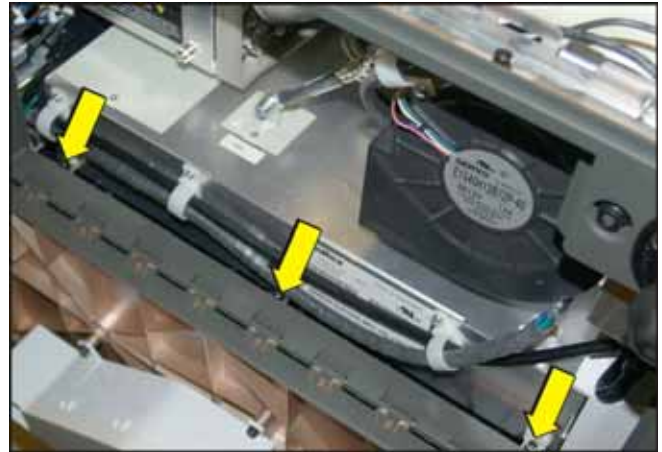

Figure 5-24 Remove LPS
6. Using a 4mm hex key remove the five screws securing the LPS to the projector base. Three screws are located along the front edge of the LPS (**Figure 5-24**), another in the back-left corner and the front-right corner (not shown). **NOTE:** Close the lamp door to access the screws on the left-side.